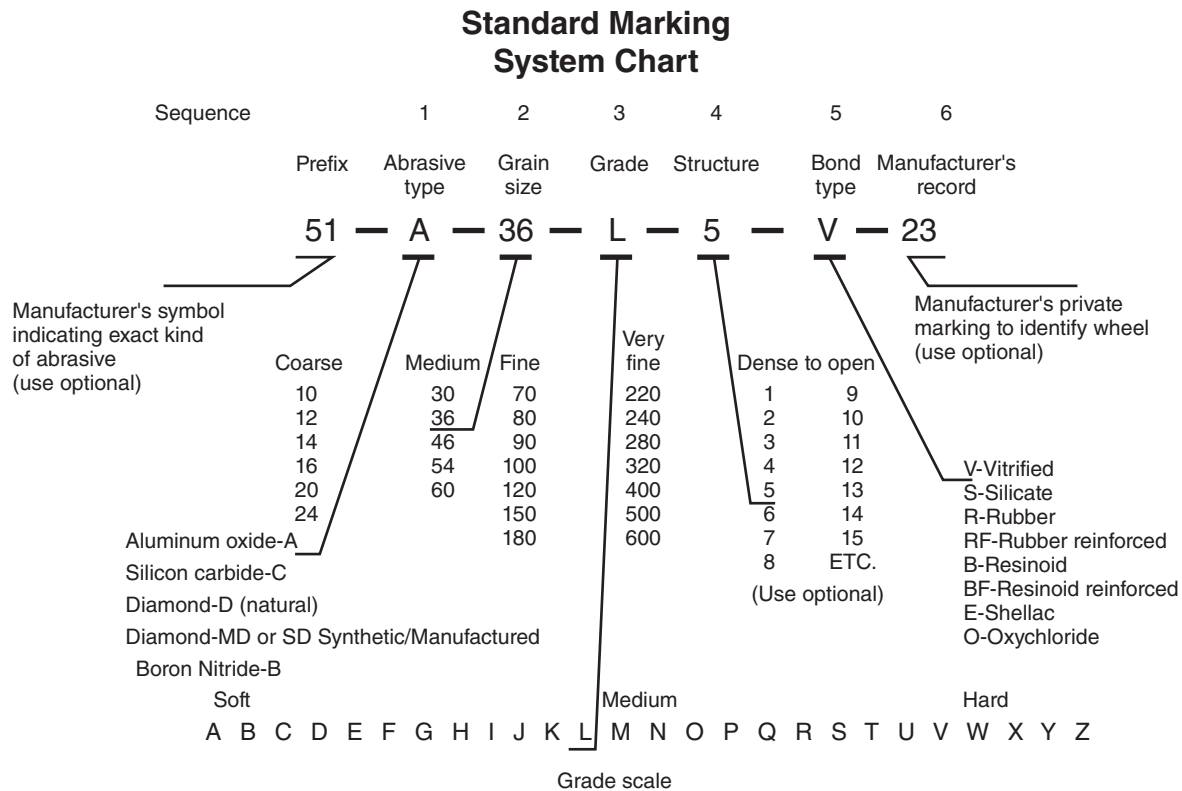

Figure 13-11 The ANSI numbering system for grinding wheel selection features seven columns of information.
13.1.2 Abrasive Types—Column 1 (Fig. 13-11)